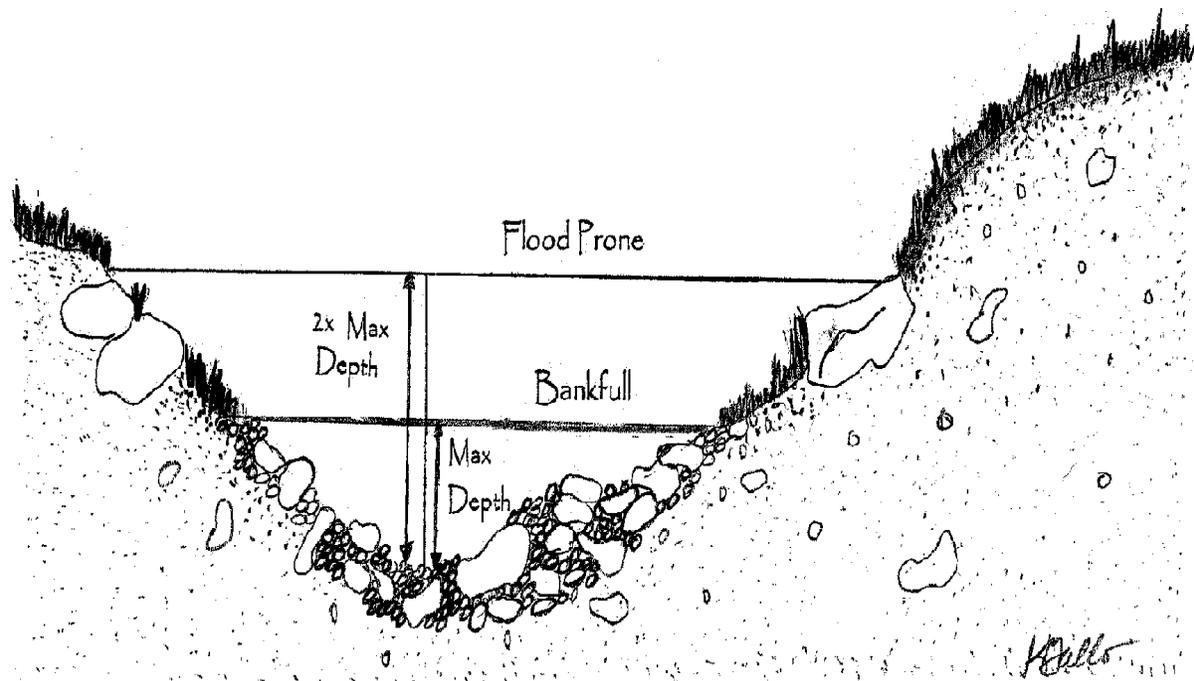

Figure 3. Example cross-sectional profile depicting bankfull width and flood prone.
6. At two randomly selected transects, measurements will be taken for flood prone width (Be sure to circle the flood prone transects on the Stream data form; and justify not using the first two flood prone transects). Take the first and last measurement outside flood prone (Figure 3), and then take as many measurements as necessary to capture slope breaks and other features. Take measurements inside bankfull as described in step 4 above.